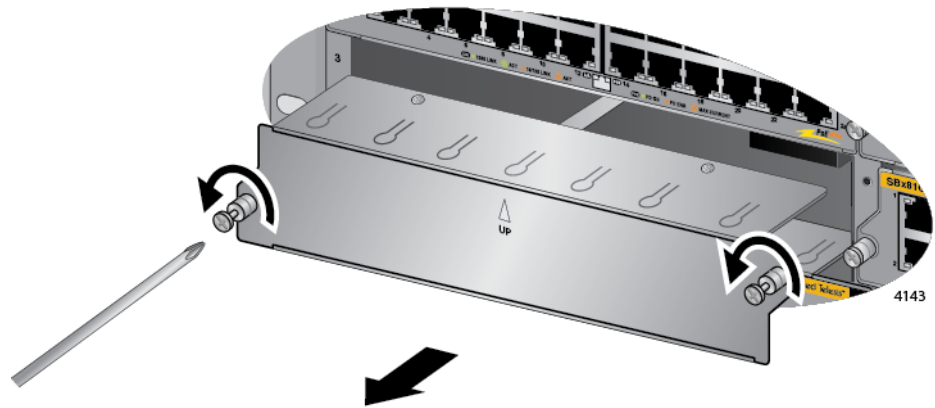

Figure 84. Removing a Blank Slot Cover
2. If the selected slot for the line card is covered with a blank slot cover, use a #2 Phillips-head screwdriver to loosen the two captive screws on the cover and remove it from the chassis. Refer to Figure 84 on page 145.